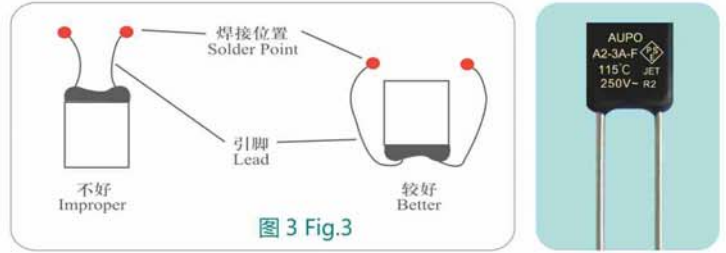

图 3 Fig.3
- 尽可能利用长一些的引脚，长一些的引脚允许较长的焊接时间及减少过热的可能性。（见图 3）为如何在较小的位置保留长一些的引脚的例子。在引脚较短的情况下，在焊接时要用尖嘴钳或其它工具夹在引脚上焊点和保险丝体之间位置上以散热，避免焊接热传入量温度保险丝内部。同时焊接温度应控制不要过高，焊接时间尽可能短。
- Using the lead wires as long as possible when soldering, longer leads permit a longer soldering time and reduce the possibility of overheating.Fig.3 is an example of how to keep a longer lead wires when a thermal cutoff is installed in a small space.It is recommend that using a heat sink between the soldering point and sealant to minimized the heat transmission to thermal cutoff.Avoid the soldering temperature is too high and keep the soldering time as short as possible.